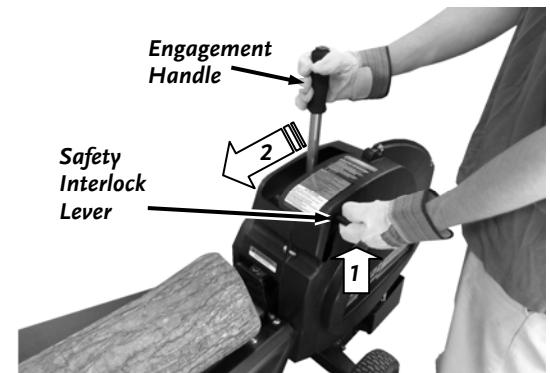

Figure 27
2. With one hand, lift and hold the Safety Interlock Lever up, then **RAPIDLY** press the Engagement Handle fully forward until it contacts the hard stop and hold firmly until the Log is split (**Figure 27**).